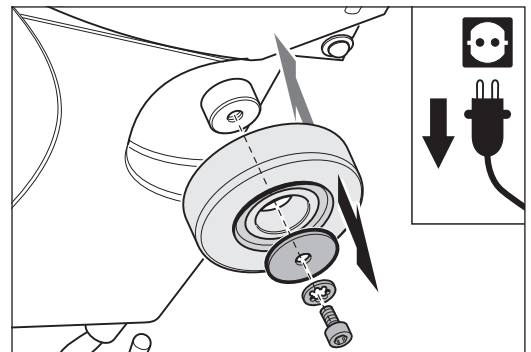

Fig. 58 Remove the screw with the washers in the centre of the wheel and remove the lateral wheel. Replace in reverse sequence. **Similar to figure.**
- 4** Release the screw in the centre of the lateral wheel and remove the screw and the washers (Fig. 58).